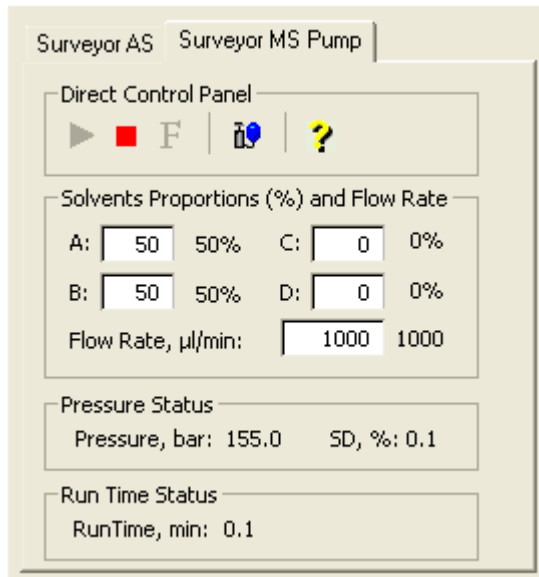

Figure 7-7. Inlet Direct Control view, showing high flow setup
- a. On the Control / Scan Mode toolbar, click on the AS/LC Direct Control button to display the Inlet Direct Control view in the top right corner of the workspace. See Figure 7-7.